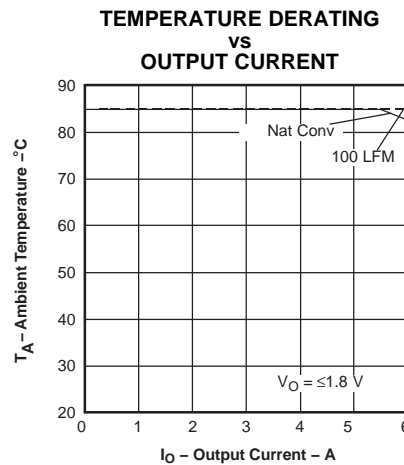

Figure 9.
- (2) SOA graphs represent the conditions at which internal components are at or below the manufacturer's maximum operating temperatures. Derating limits apply to modules soldered directly to a 4 inches  $\times$  4 inches double-sided PCB with 1-oz. copper. For surface mount packages (AS and AZ suffix), multiple vias (plated through holes) are required to add thermal paths around the power pins. Please refer to the mechanical specification for more information. Applies to Figure 9.